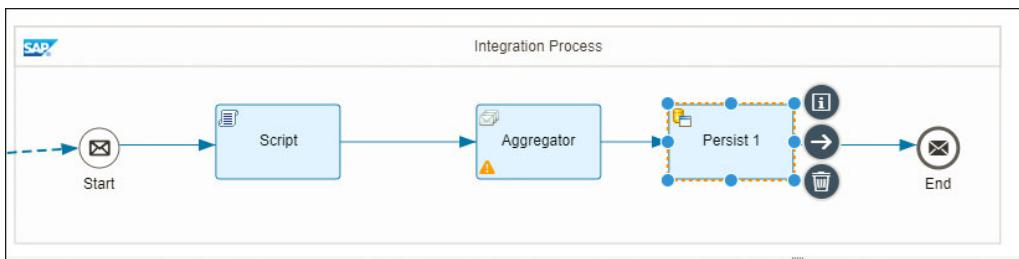
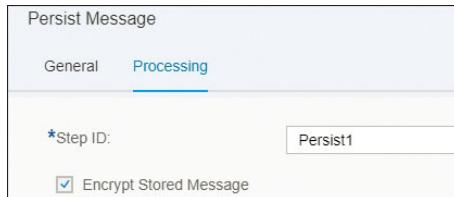

Figure 9.40 Overview of the Integration Flow Extended with a Persist Step A
Figure 9.41 Overview of the Integration Flow Extended with a Persist Step B
4. Ensure that the **Step ID** of the newly added step is unique. The final integration flow should look like the one presented in Figure 9.40 and Figure 9.41. Note that according to our integration flow, the message store is only populated after all messages have been collected because the **Persist** step comes after the **Aggregator** step.